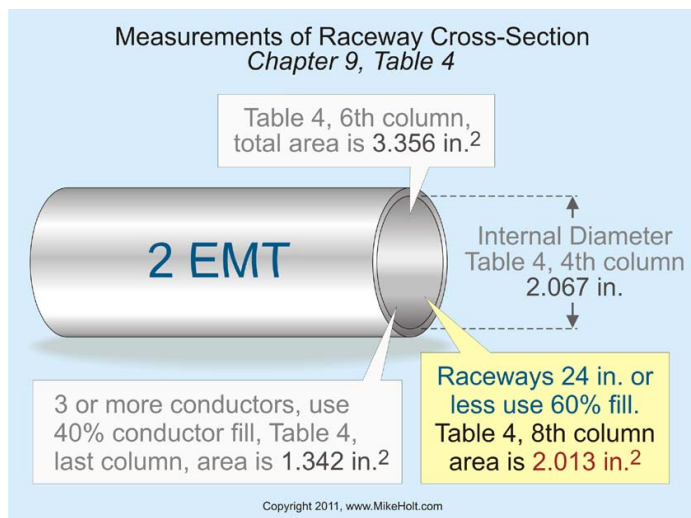

Figure 5-18
**Question:** What's the cross-sectional area of permitted conductor fill for a trade size 2 EMT raceway that's 20 inches long? **Figure 5-18**
**Question:** What's the cross-sectional area of permitted conductor fill for a trade size 2 EMT raceway 30 inches long that contains four conductors? See **Figure 5-18**.